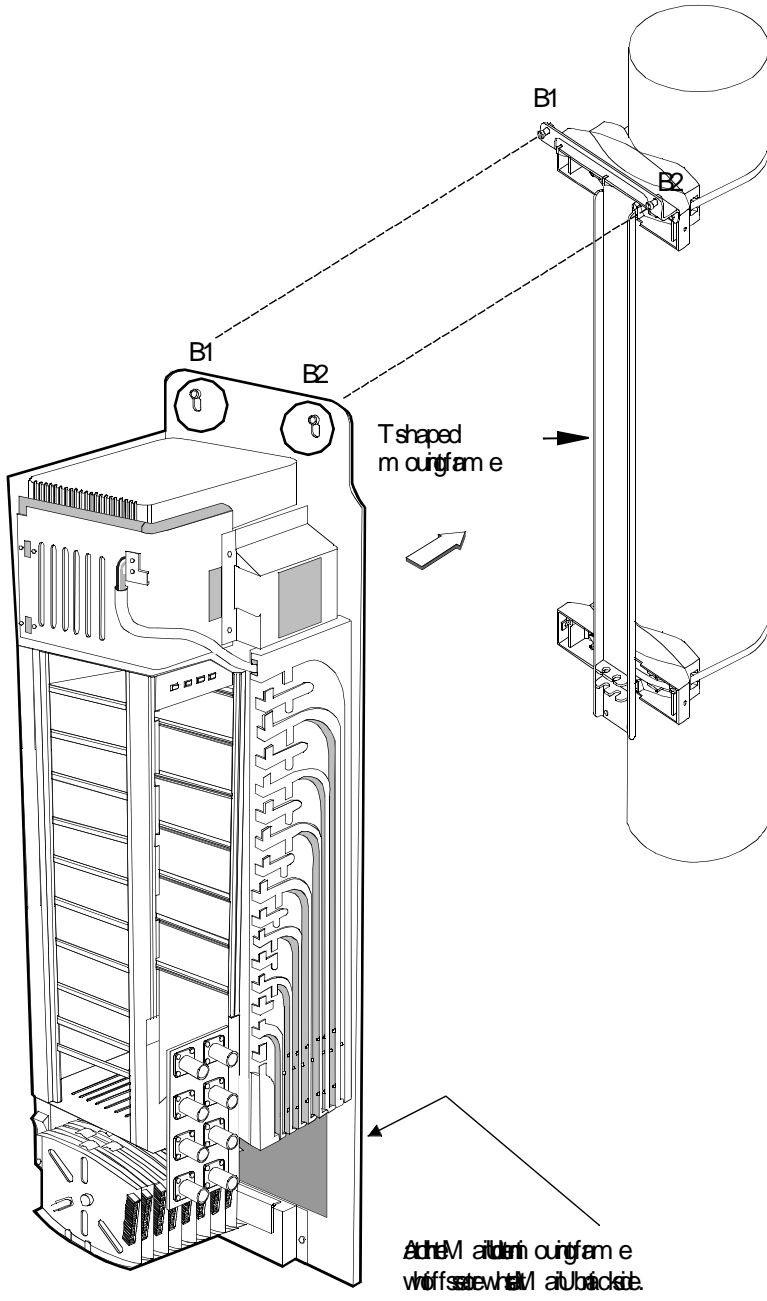

Figure 1. Penetration of the antenna into the back cover
2. Position the U-plate onto the second lowest screw holes R3 and R4 and refer to Figure 1.
3. To fix the U-plate and the lower pole bracket to the mounting frame, insert the M6 x 20 mm Allen screws through the U-plate and through screws R3 and R4 into the screw holes on the lower bracket. Refer to Figure 1. Use a torque driver with a 6 mm Allen bit to tighten securely.
4. Position the pre-assembled upper bracket on the pole. Make sure the screw holes for the screws R1 and R2 are on the upper edge of the frame. Refer to Figure 1.
8. Attach the mounting frame to the upper bracket from the front with screws R1 and R2 with M6 x 20 mm Allen screws. Refer to Figure 1. Use a torque driver with a 6 mm Allen bit to tighten the screws.